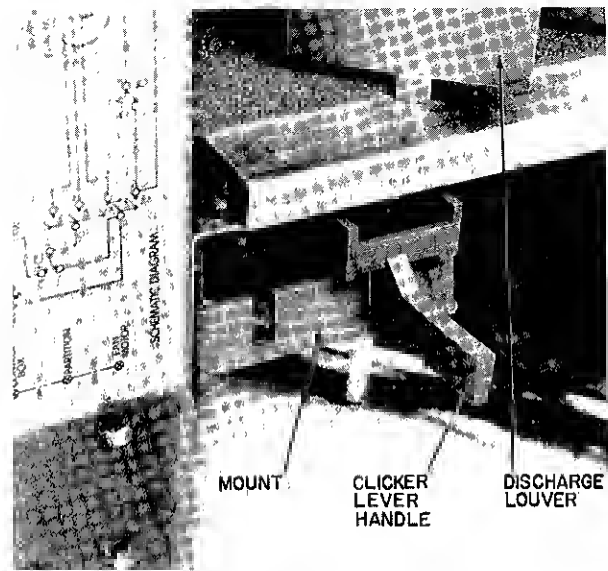

Fig 34 — Vent and Exhaust Linkage
- c Remove clicker lever. Push up on lever handle while holding mount down. See Fig 34